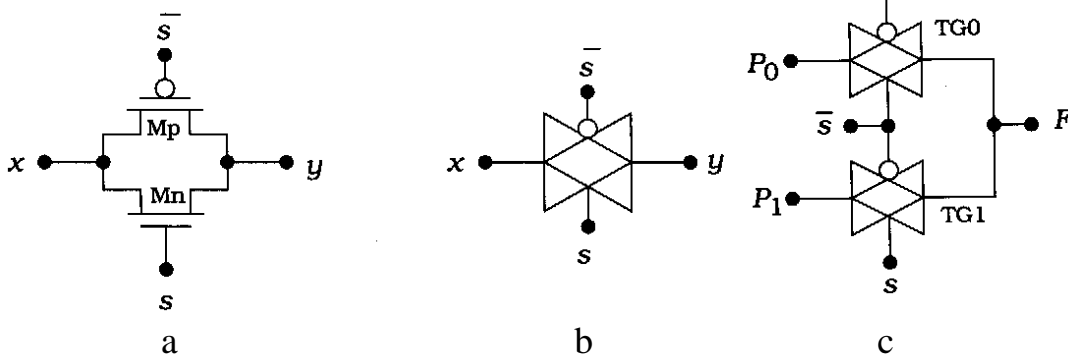

Fig. 1: (a) CMOS transmission gate, (b) transmission gate symbol, (c) 2:1 transmission-gate multiplexer, MUX21.
1. Create the schematic for a 2:1 multiplexer cell (MUX21) using pass transistor logic (transmission gate) with minimum-sized nMOS and pMOS transistors ($L=2\lambda$, $W=5\lambda$). See Figure 1 below and Chapter 2 notes. Include an inverter within this cell to invert the select signal. Create the inverter at the transistor level; do not instantiate an inverter cell into this schematic. You are not required to make a transmission gate cell, rather you can implement transmission gates with transistors directly within the MUX21 cell. The cell should have three inputs (e.g., a, b, s) and one output. When drawing the schematic, consider how the transistors might be arranged in the layout (step 3).